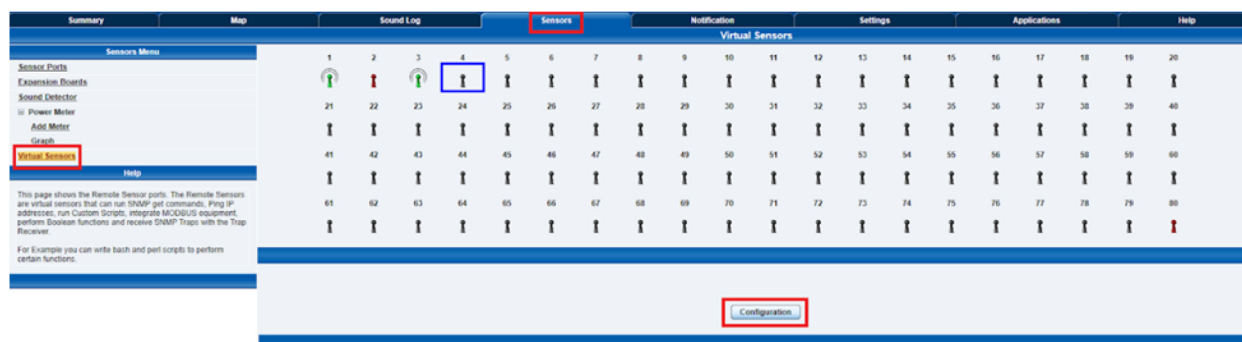

FIGURE 3-8: SENSORS TAB SHOWING VIRTUAL SENSORS OPTION
1. Access the Virtual Sensor setting page via Sensor => Virtual Sensors and then select the desired free Virtual Sensor port as shown below in Figure 3-8.